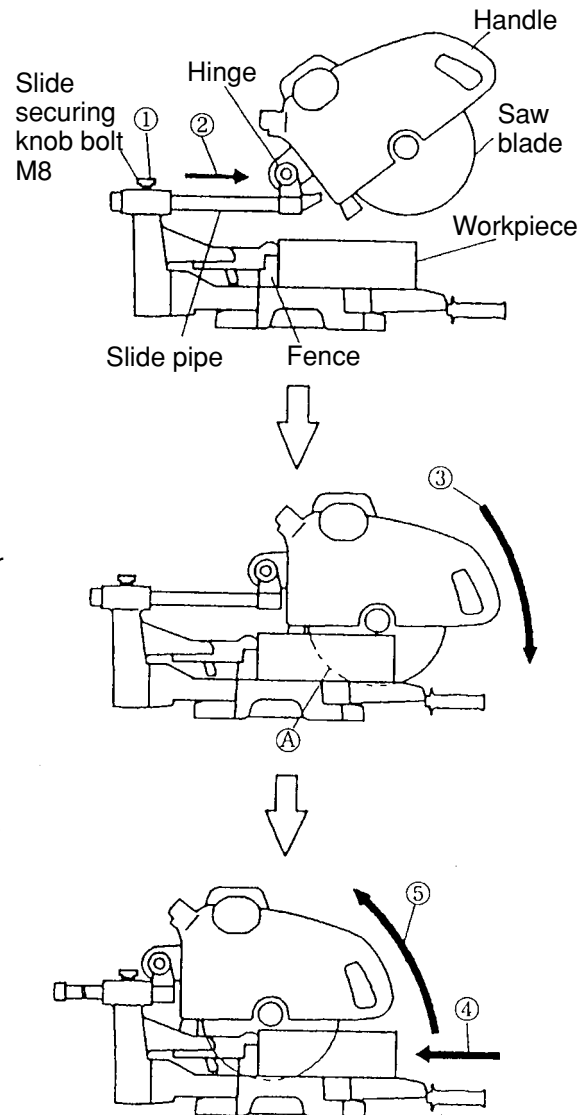

Fig. 35
(1) Cutting efficiency will be reduced if a dull saw blade is used, if an excessively long extension cord is used, or if the wire gauge of the extension cord is too small. (for details on extension cords, please refer to the Handling Instructions.) This is particularly important when cutting materials with dimensions which are at or near the maximum capacity for the machine.
(2) The customer should be advised to thoroughly inspect the workpiece to ensure that there are no metallic objects (nails in particular), sand, or other foreign matter in or on the workpiece. Saw blade contact with such foreign matter will not only shorten the service life of the saw blade, but could cause serious accident. Should the saw blade tips be broken off, the tips may fly toward the operator.
(3) Press cutting (③ of Fig. 35)
(4) Slide cutting (① – ⑤ in Fig. 35)
[CAUTION] If the handle is pushed down forcibly and excessively fast, it could cause saw blade vibration and partial sliding which would leave unwanted cutting marks on the workpiece (see the area marked A in Fig. 35). Instruct the customer to slowly and carefully press down the handle.
Instruct the customer to always slide the saw blade section toward the fence while cutting, as shown by arrow ④ in Fig. 35.
- ⑤ On completion of the cutting operation, turn the switch OFF and wait for the saw blade to come to a complete stop before raising the saw blade section (head) to its original position. Raising the saw blade section while the saw blade is rotating may cause unwanted cutting marks on the workpiece.
Uneven and unwanted cutting marks can be avoided throughout the cutting operation by gently and smoothly pressing down on the handle (arrow ③ in Fig. 35) and immediately sliding it forward (arrow ④ in Fig. 35) uniformly, so that the entire cutting operation is accomplished in a single, uninterrupted motion. Advise the customer that he or she will quickly develop a "feel" and skill for smooth cutting after performing two or three practice cutting operations.